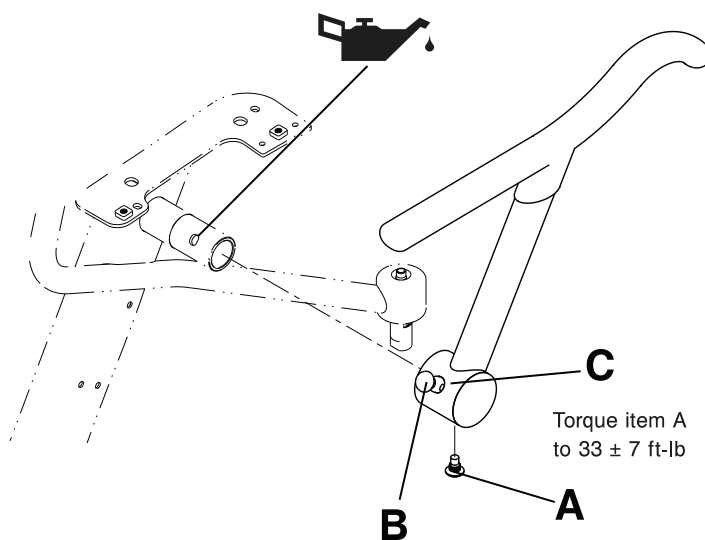

Figure 24: Flip-up armrest replacement
2. Using a 5/16" hex wrench, remove the hard stop pin (A) from the bottom of the flip-up armrest (Figure 24 on page 41). Discard the pin.
3. Using one hand, pull up on the armrest release pin (B) and use your other hand to pull outward on the flip-up armrest (C) to remove the armrest (Figure 24 on page 41).
4. Grease the supplied armrest pivot with Syntec grease (3000-200-7 19) (Figure 24 on page 41).